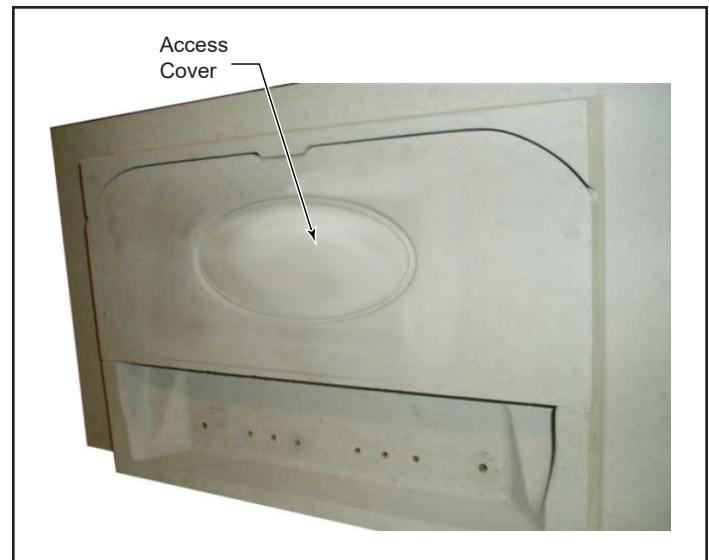

Figure 3.10 - Remove access cover.
1. Remove the access cover by gently lifting up and pulling out from the bottom edge, Figure 3.10.